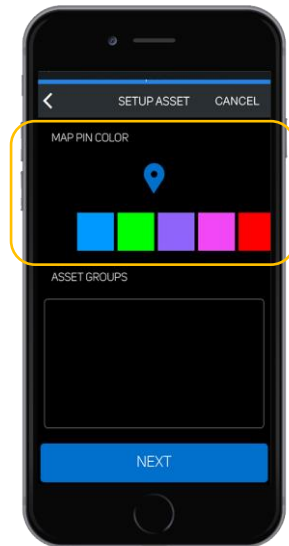

FIG. 4
- 6) At the next screen the user will choose a map pin color to associate with the asset (FIG. 4). Once a selection is made, tap "Next."